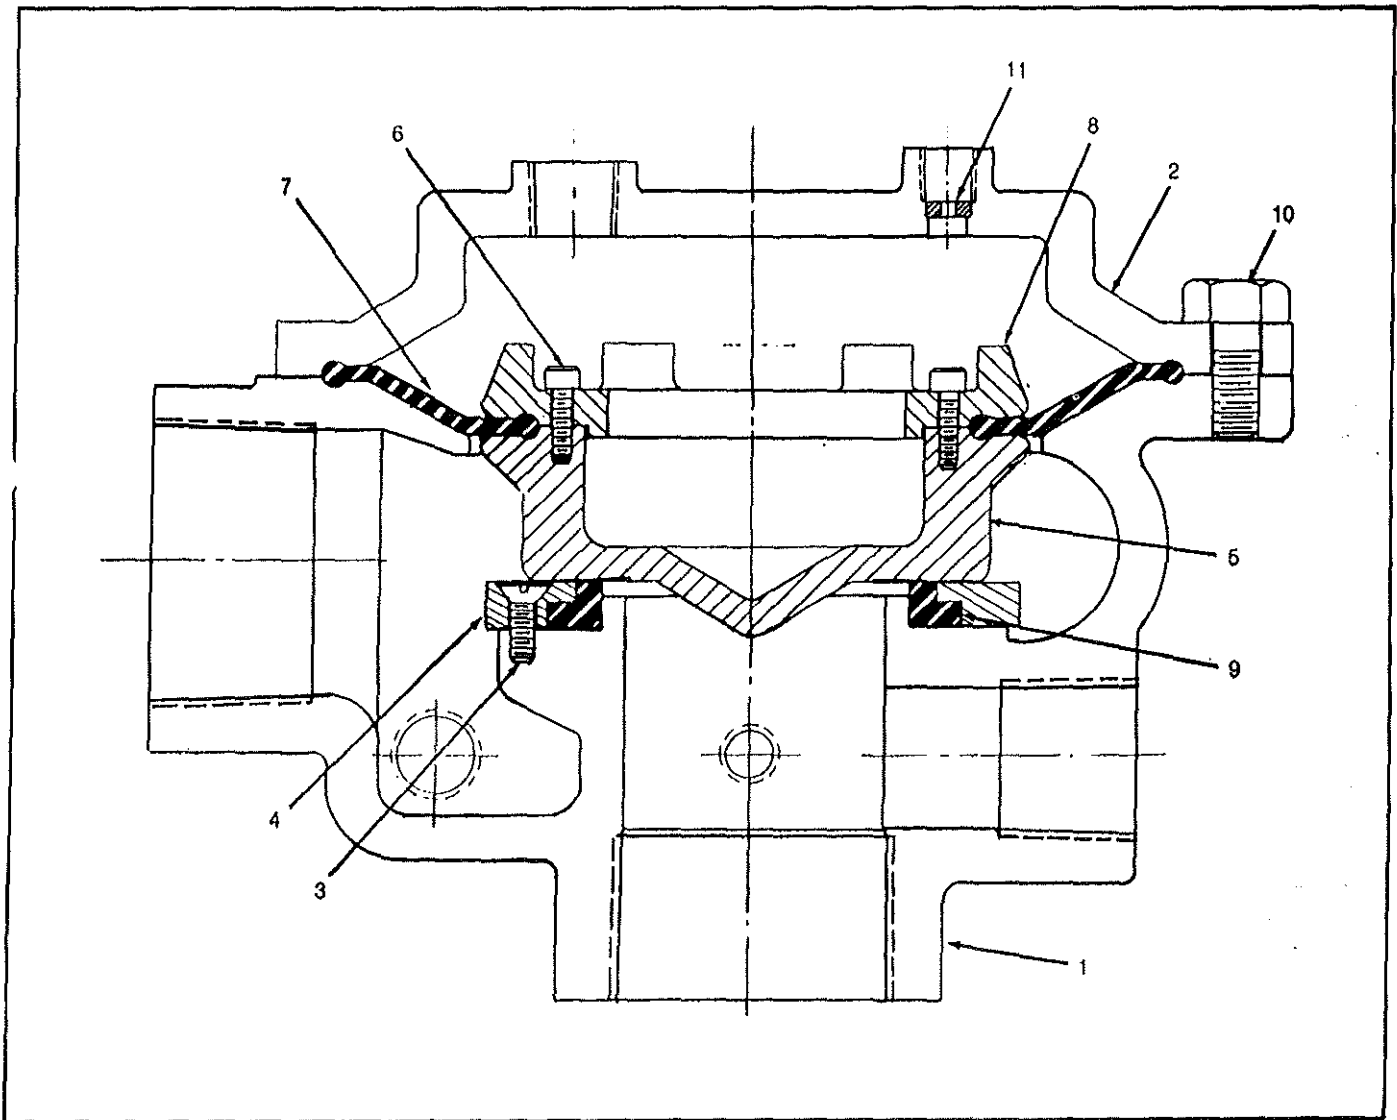

Figure 10
2. **Steady Water Flow into Drip Cup.** This condition is caused by water leaking past the Piston Seat Seal (9) or past the Diaphragm (7), Fig. 10. To locate and correct the trouble, proceed as follows:
- c. Open Valve C and Close Valve B. Then push the plunger on the ball drip Valve H. If water flows from the ball drip the Diaphragm (7) is leaking and must be replaced; proceed as follows:
- 4) Remove the assembled Piston (5) and Diaphragm (7), Fig. 10.
- 5) Remove 8 Screws (6) holding the Diaphragm Clamping Ring (8). Remove the Clamping Ring (8) and Diaphragm (7).
- 6) Install a new Diaphragm (7) with the cone shape facing away from the Piston (5) Face. Install the Clamping Ring (8) and Screws (6) and alternately tighten the screws until the clamping ring is metal to metal tight to the piston.
- d. If no leakage was found in 2c above, then close Drain Valve A and slightly open the Valve controlling water supply pressure to the deluge valve. Wait 15 minutes, then push the plunger on the ball drip. If water flows from the ball drip, the Piston Seat Seal (9) is leaking and must be replaced; proceed as follows: